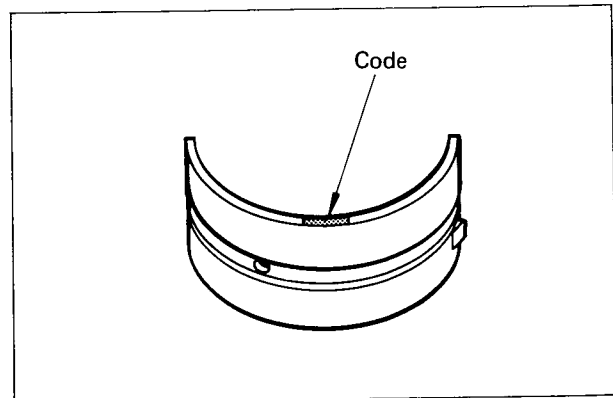

Fig. 1
- For the bearing of standard parts, the color code on part is marked as shown in Fig. 1. Also for the under size bearing, the stamped mark of 0.25 or 0.50 is marked as shown in Fig. 2 according to their under size.